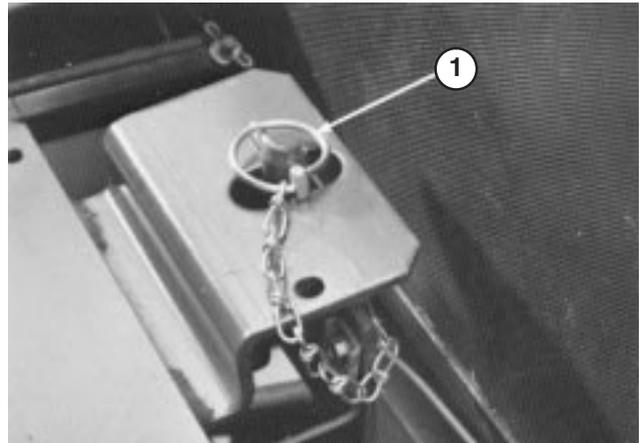

Figure 16
6. Disengage seat support rod and pivot downward. Pivot seat down and push lynch pin through seat latch stud. Flip wire end of pin over latch stud (Fig. 16).